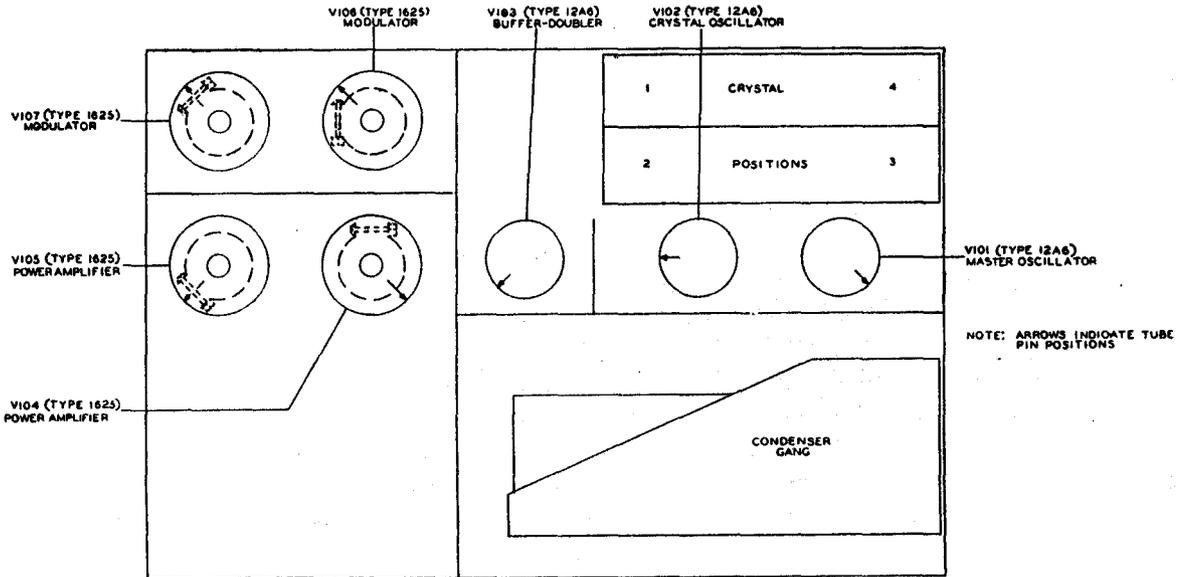

Fig. 16. Transmitter Tube Placement Diagram (Dwg. 1828B)
3.3.1. When the inspection of the units has been completed the vacuum tubes and crystals may be installed in the transmitter and receiver units. The tube placement diagrams, Figures 16 and 17, show the outlines of the